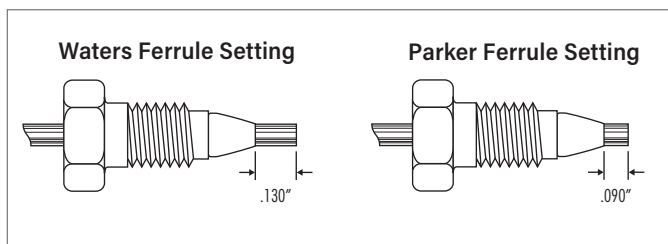

Figure 1: Waters and Parker Style Ferrule Types.
4. An arrow on the column identification label indicates correct direction of solvent flow. Correct connection of 1/16 inch outer diameter stainless steel tubing leading to and from the column is essential for high-quality chromatographic results. It is important to realize that extra column peak broadening can destroy a successful separation. The choice of appropriate column connectors and system tubing is discussed in detail below. Due to the absence of an industry standard, various column manufacturers have employed different types of chromatographic column connectors. The chromatographic performance of the separation can be negatively affected if the style of the column endfittings does not match the existing tubing ferrule settings. This section explains the differences between Waters style and Parker style ferrules and endfittings (Figure 1). Each endfitting style varies in the required length of the tubing protruding from the ferrule. The SunFire column is equipped with Waters style endfittings that require a 0.130 inch ferrule. If a Parker style column is presently being used, it is critical that the ferrule depth be reset for optimal performance prior to installing a SunFire Column.